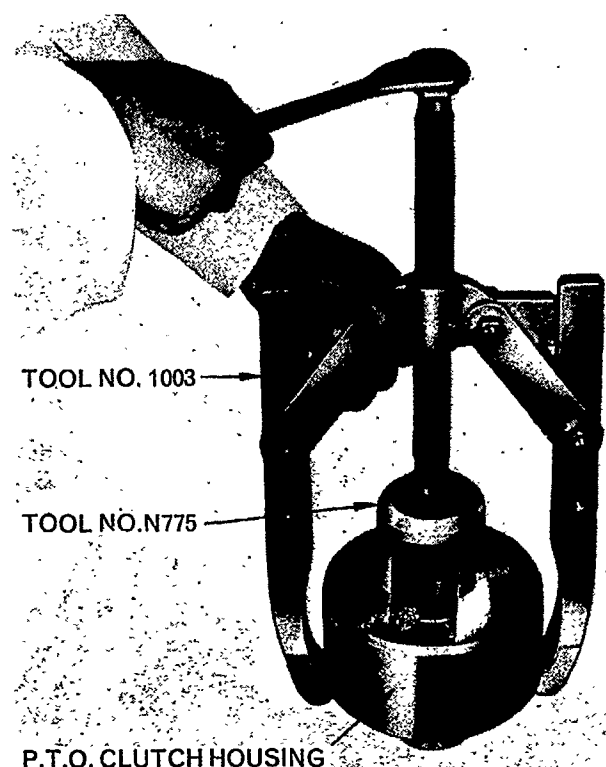

Figure 25
7. Using Tools Nos. N775, 1003 and a suitable step plate depress the piston return spring, Figure 25, and remove the retaining snap ring. Remove the spring retainer and spring.